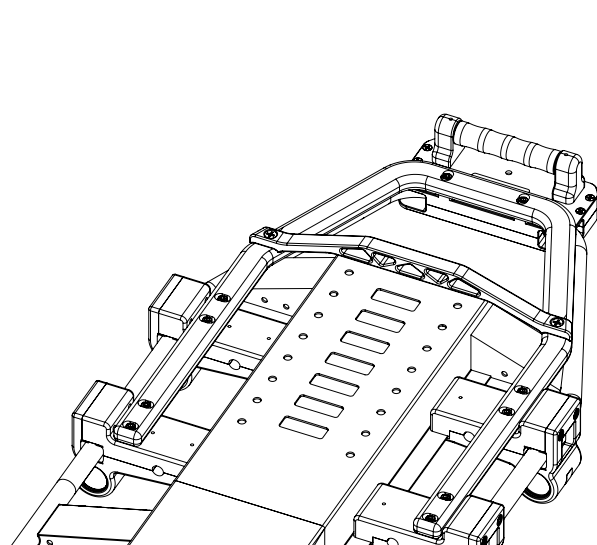

Figure 25: Installing the cot support structure on the stretcher
8. Place the cot support structure on the handle and clamp blocks, aligning the screw holes, then partially tighten using the ten (10) screws with medium strength thread lock adhesive, ten (10) flat washers and a 3/16 in. hex key (Figure 25). The screws will be tightened at a later step.